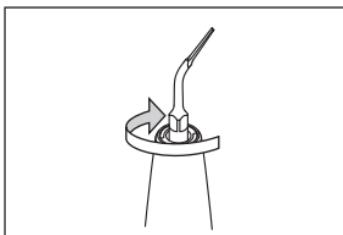

Fig. 1
- 1) First securely screw the tip by hand into the handpiece until it is tight (Fig. 1).